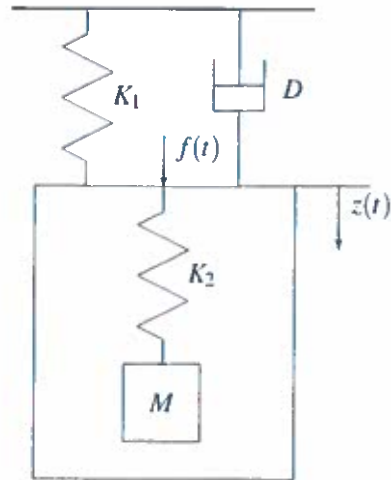

Figure 1.1
1. a) Consider the system illustrated in Figure 1.1 where all the symbols have the standard interpretation. The input is the applied force $f(t)$ and the output is the displacement of the box $z(t)$. Take $M = K_2 = D = 1$ in appropriate units.